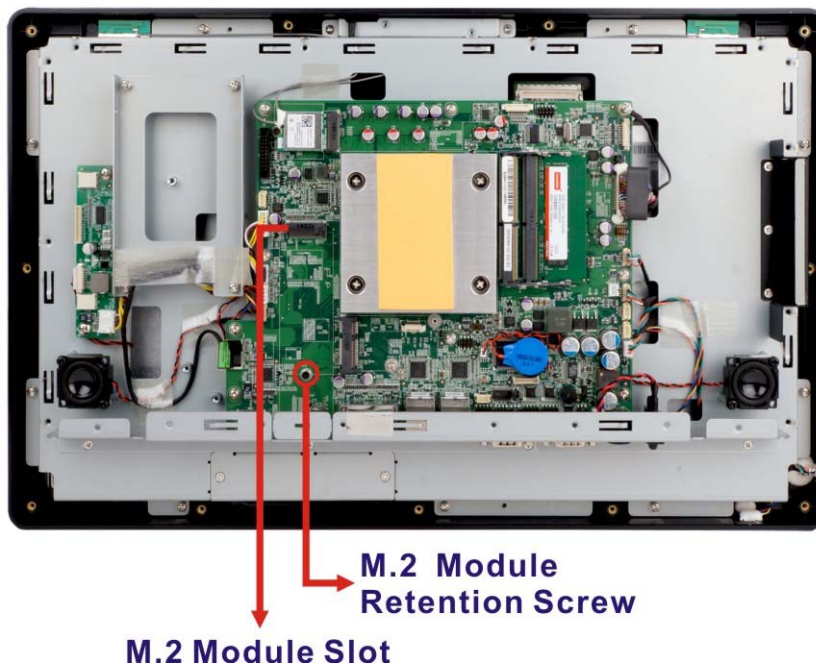

Figure 3-6: M.2 Module Slot Location
Step 2: Locate the M.2 slot. Remove the preinstalled retention screw on the motherboard as shown in **Figure 3-6**.